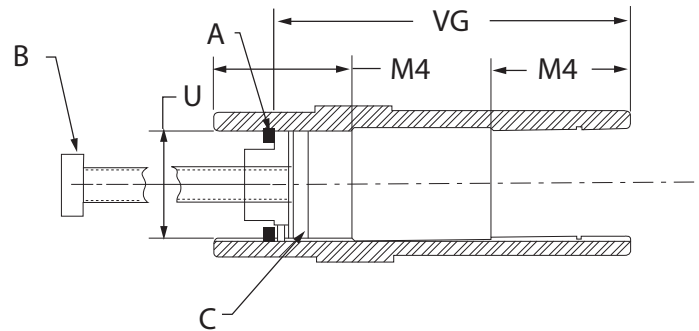

Figure 5 - Disassembly Arrangement
Prior to disassembly, the dust cap, retaining bolt, spring washer, keeper plate and retaining ring must be removed. For ease of disassembly, it is recommended that the following tools be made and used as described: The round keyed nut (A) is inserted into the free space between the retaining ring in the gear unit's hollow shaft and the end of the machine's drive shaft. The removal bolt (B) is screwed into the nut (A) which presses a disk (C) against the machine's drive shaft. The resulting force pushes the gearbox off of the machine's drive shaft. Reference Figure 5 for the disassembly arrangement.